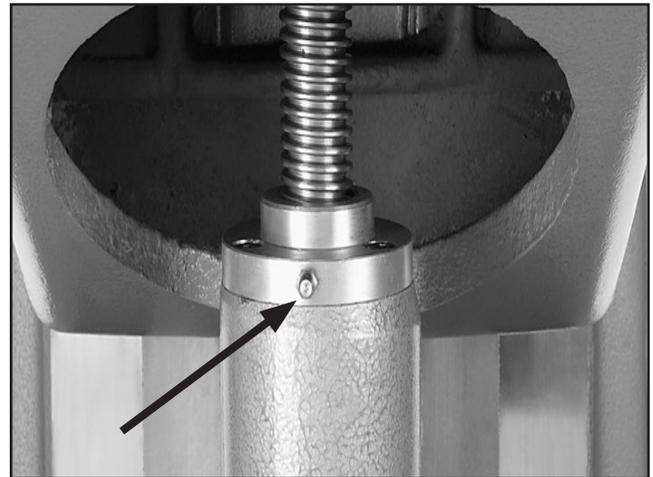

Figure 56. Elevation lead screw grease fitting.
1. Raise the knee up so that you can access the elevation lead screw grease fitting, as shown in **Figure 56**.